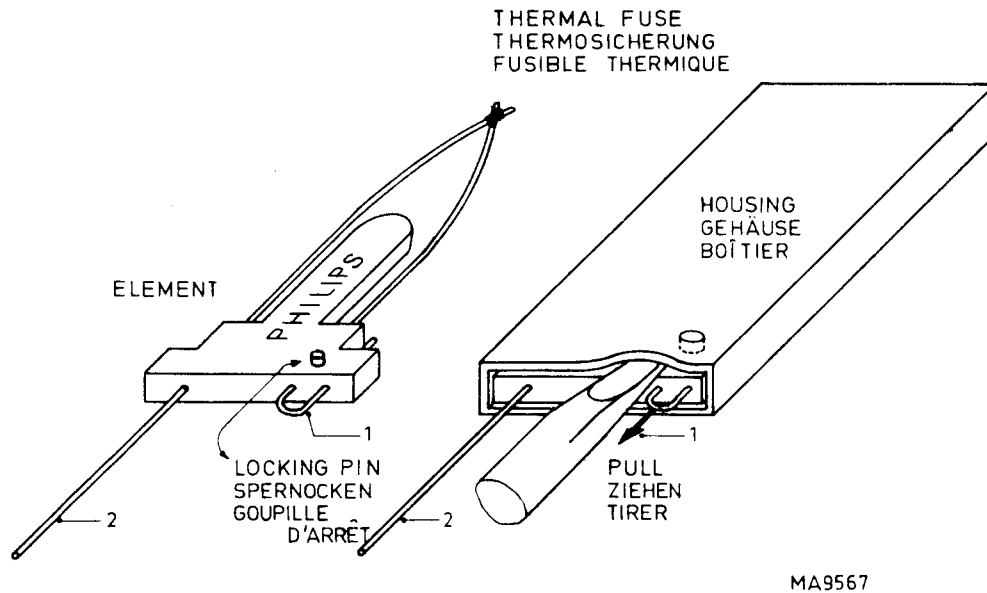

Fig. 2.7. Replacing the thermal fuse
- Unsolder fuse terminals 1 and 2 (Fig. 2.7. and 2.8.).